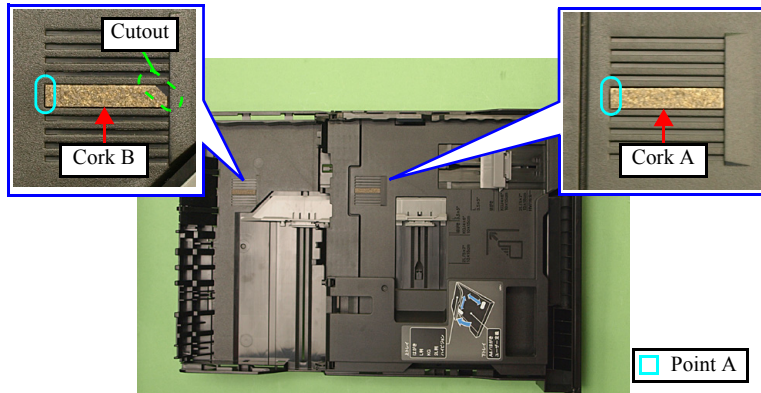

Figure 4-35. Attaching the cork
- When attaching the cork B, align the cutout to the place shown in Fig. 4-35.